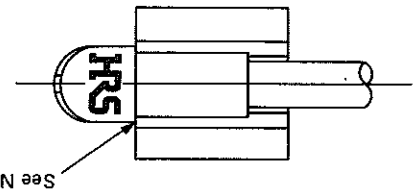

Fig. 6
- (1) Insert the mating section of the connector into the hole of the crimp connection jig, as shown in Figure 6. Note 9: After insertion, make sure that the crimp sleeve is inserted fully in the base of the support bar.
- (2) Fully depress the lever of the crimp connection jig to make the connection.